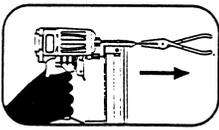

Fig. 1
3. Grab jammed fastener with pliers and remove. (See **Fig. 1**)